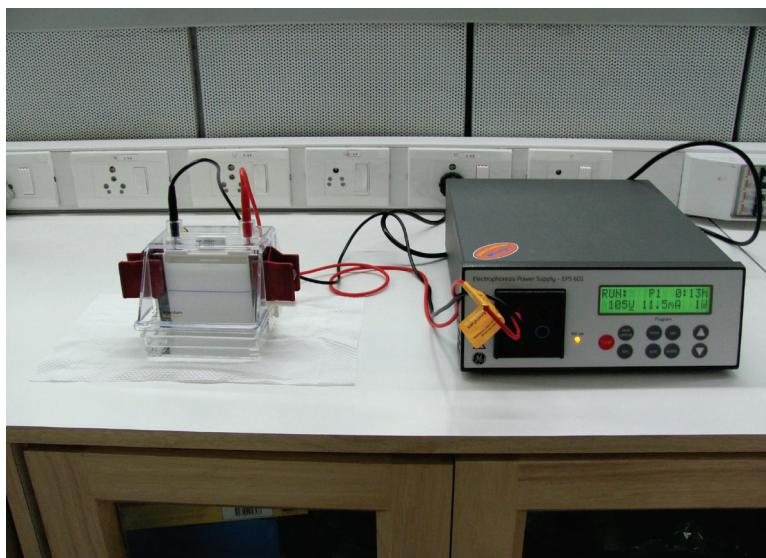
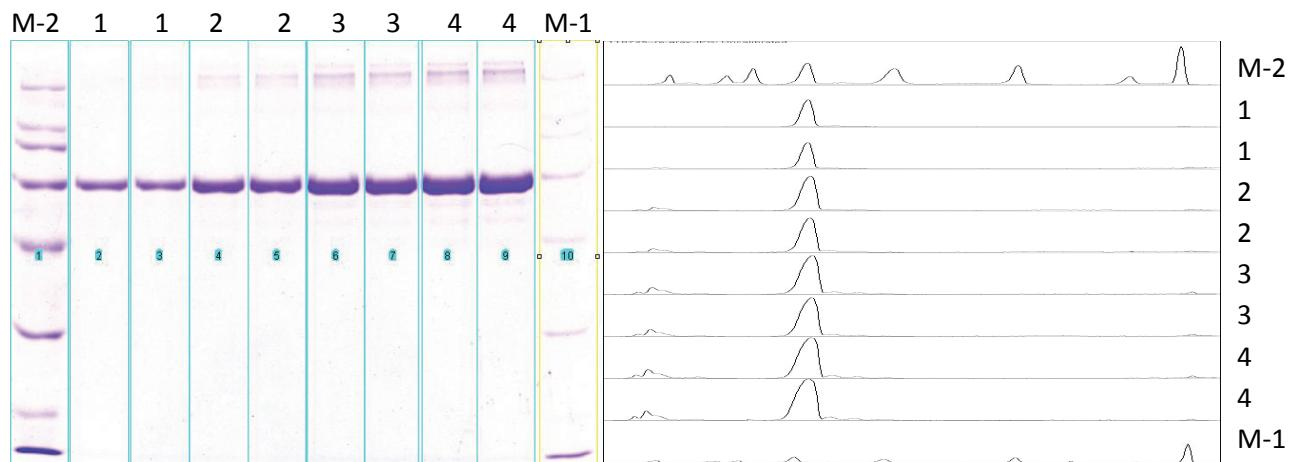

Fig 1) Experimental setup of SDS PAGE at MS Facility NCBS Bangalore
Fig 2) Gel Image of CBB 250 stained gel and Image J Analysis
2. Do a tight selection (rectangular selection – Fig2) around the lane of interest. Press "Ctrl+1" to designate the first lane.(as given in fig.1)